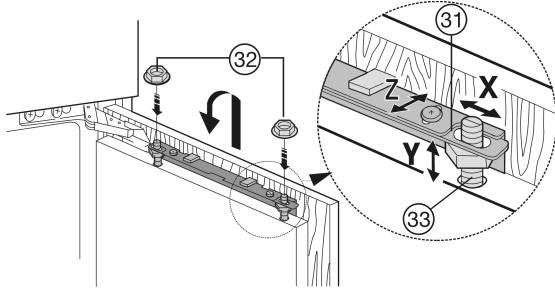

Fig. 23
- Attach the unit door on the adjusting bolts Fig. 23 (33) and loosely screw the locknuts Fig. 23 (32) onto the adjusting bolts.
- To align the unit door in height and in lateral inclination: Adjust the adjusting bolts Fig. 23 (33) with a screwdriver.
- Tighten the locknuts Fig. 23 (32).